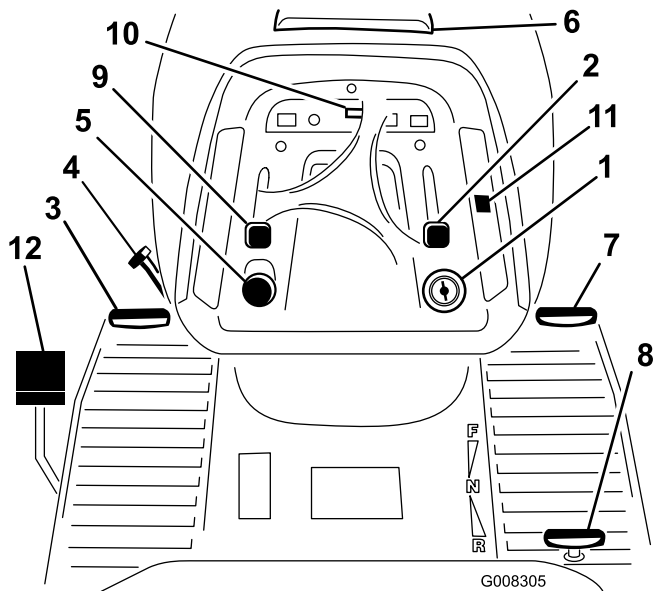

Figure 3
Become familiar with the controls (Figure 3) before you start the engine and operate the machine.
1. Push the brake pedal (Figure 3) down and hold it.
2. Turn the parking brake lever (Figure 3) counterclockwise and gradually take your foot off the brake pedal.
1. Push down on the brake pedal (Figure 3).
2. Push the cruise control switch On (Figure 3).
The hour meter is located on the instrument panel (Figure 3) and shows the total operating hours of the machine.